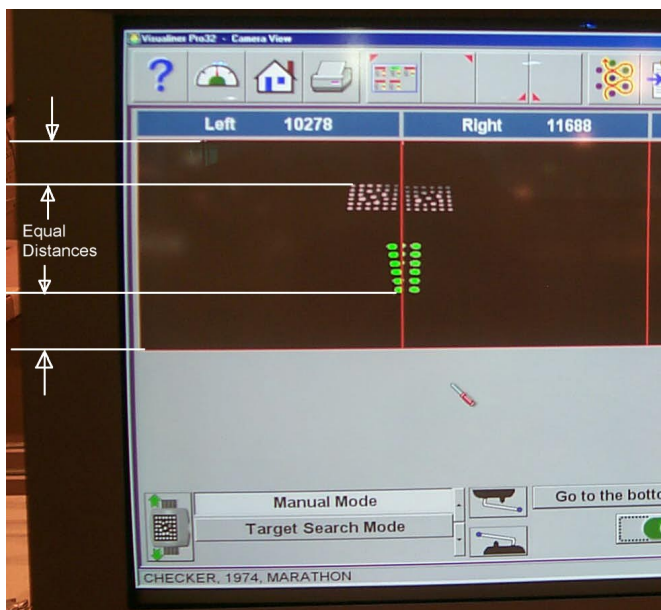
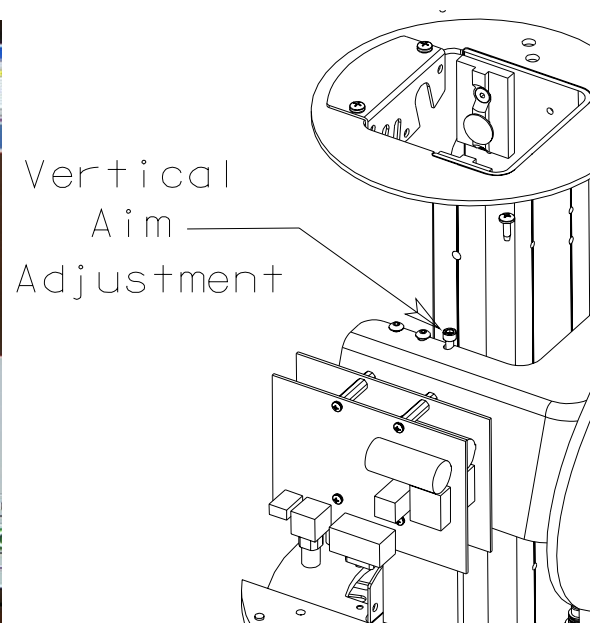

Figure 26
Figure 27
- J. Set the vertical aim of the left camera so that the distance from the top of the rear target to the top of the view window is the same as the distance from the bottom of the front target to the bottom of the view screen (Figure 26). Vertical camera aim is adjusted using the socket head cap screw on the left side of the pod car near the two button head screws that hold the camera assembly on the pod (Figure 27).
- K. Ensure both pod levers are still turned out (away from lift centerline). A portion of each front target should be seen in each of the Left and Right camera view screens. The right camera pod can now be aligned horizontally with the left so that the same number of fids (reflective dots) are shown on the left and right views (± 1 Fid) (Figure 26). Again, make sure the right pod lever stays to the far right while making adjustments to pod aim.